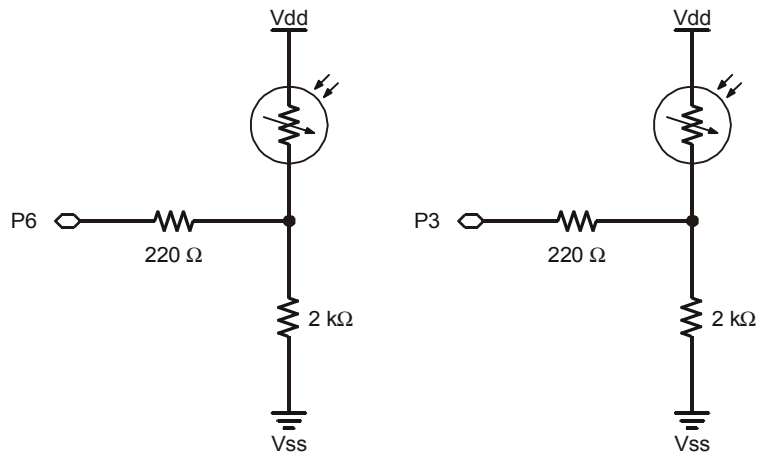
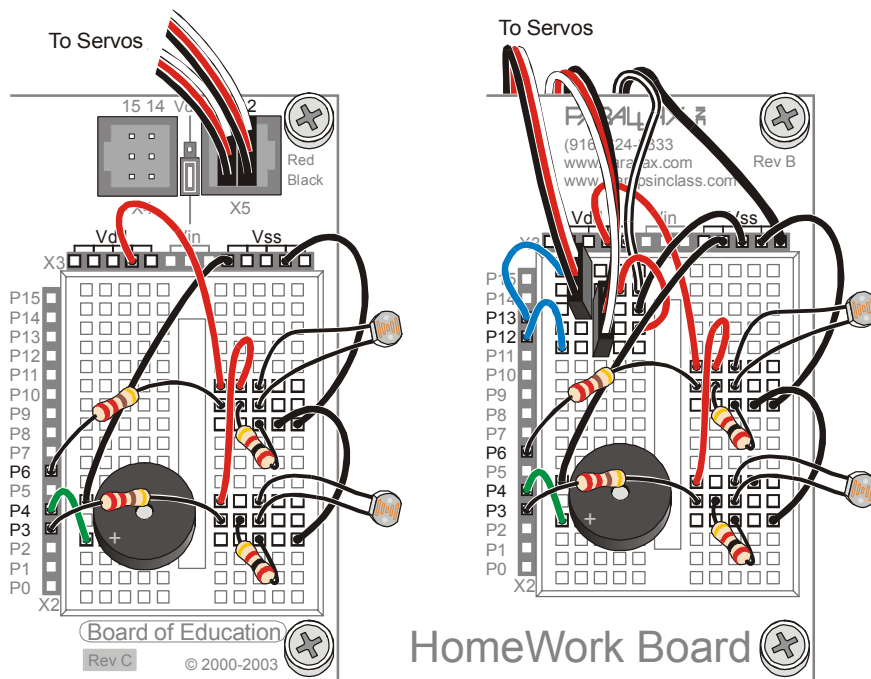

**Figure 6-2**
**Figure 6-3**
Figure 6-2 shows the schematic and Figure 6-3 shows the wiring diagram for the photoresistor circuits you will use in this and the next two activities.
- √ Build the circuit shown in Figure 6-2, using Figure 6-3 as a reference.